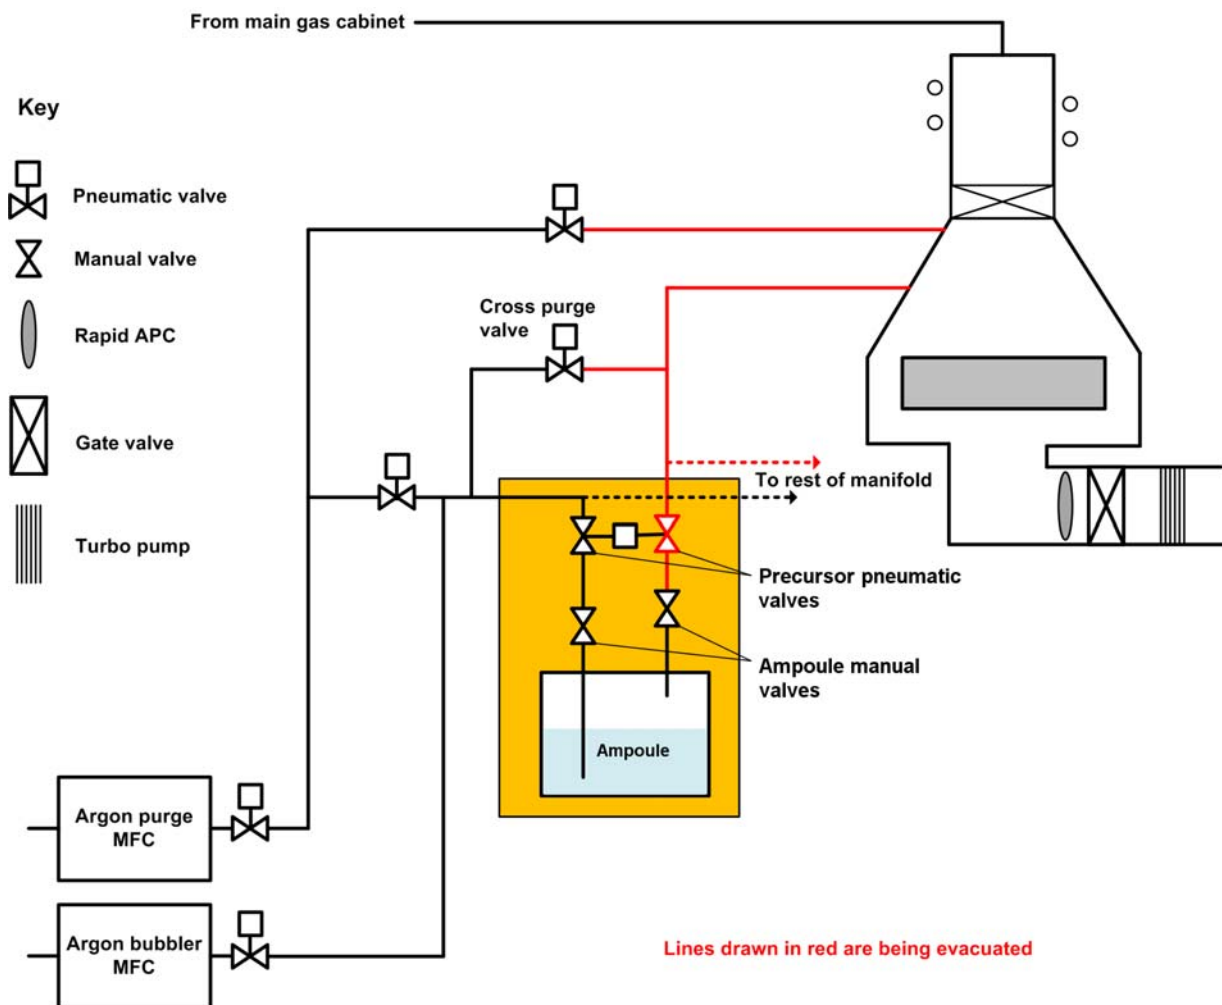

Figure 5-4 Opening all the outlet precursor valves on a manifold
- 1 At the Process Control page, open the pneumatic valves on all the precursors in the selected manifold. This pumps the section of pipe between the ALD dose valve and the ampoule or VCR blanking fitting. Pump the system for at least 15 minutes (see Figure 5-4).